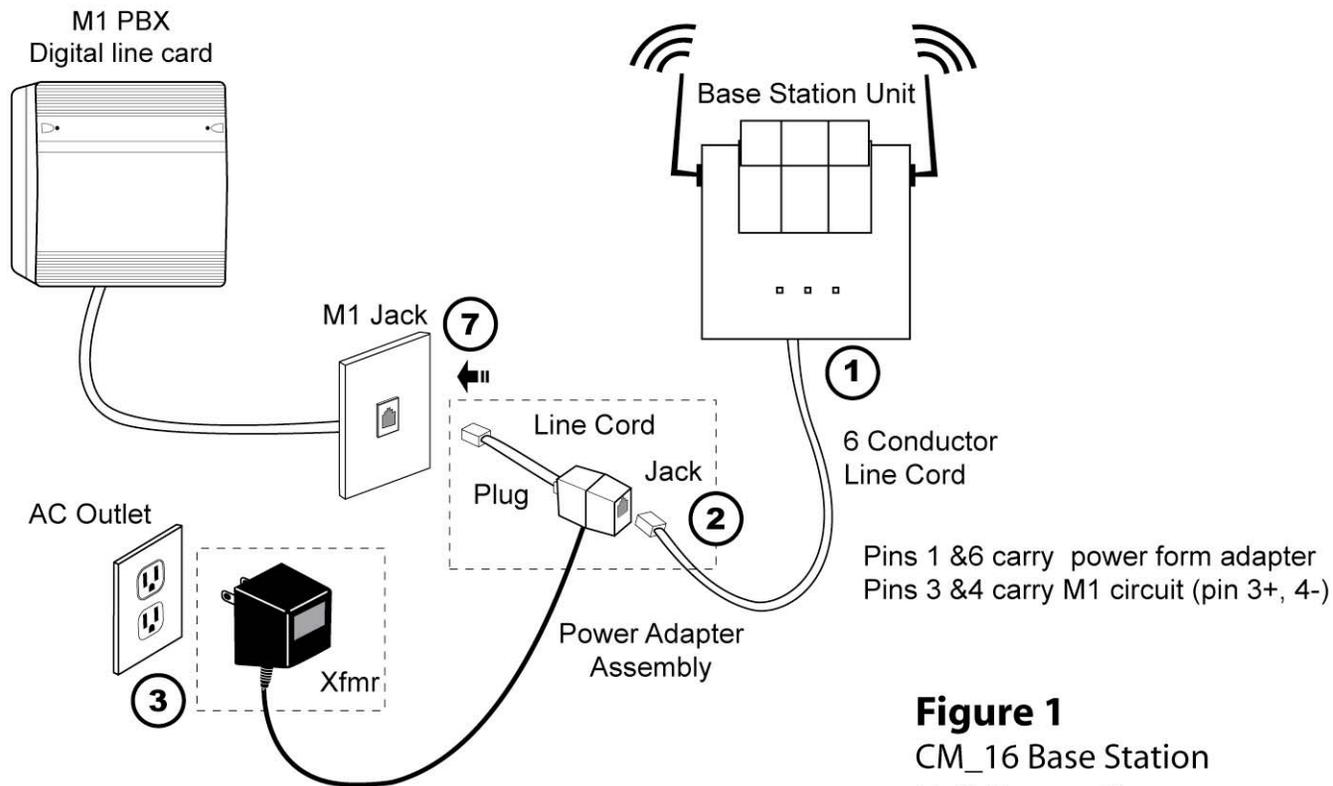

Figure 1
- The polarity of the M1 digital line circuit must be correct as shown in Fig. 1.
Refer to Figure 1 and connect the components in this order.
- 1) Plug one end of the 6 conductor cord (supplied) to the Base Station Unit, connection ① on Fig.1
- 2) Plug the other end of the 6 conductor cord into the jack on the Power Adapter Assembly, connection ② on Fig.1
- 3) Plug the Power Adapter Assembly into a known working AC outlet, connection ③ on Fig. 1
- 7) Refer to Fig. 1 - Connect the short line cord tail of the power adapter assembly to the M1 wall jack. The CM-16 should power up with this connection, so check for the following Base Station Unit and Handset ICON indications.